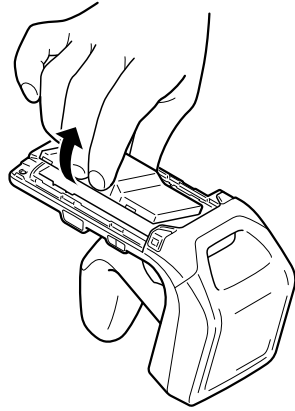

Figure 14 – Remove the Battery
2. Remove the battery (Figure 14).